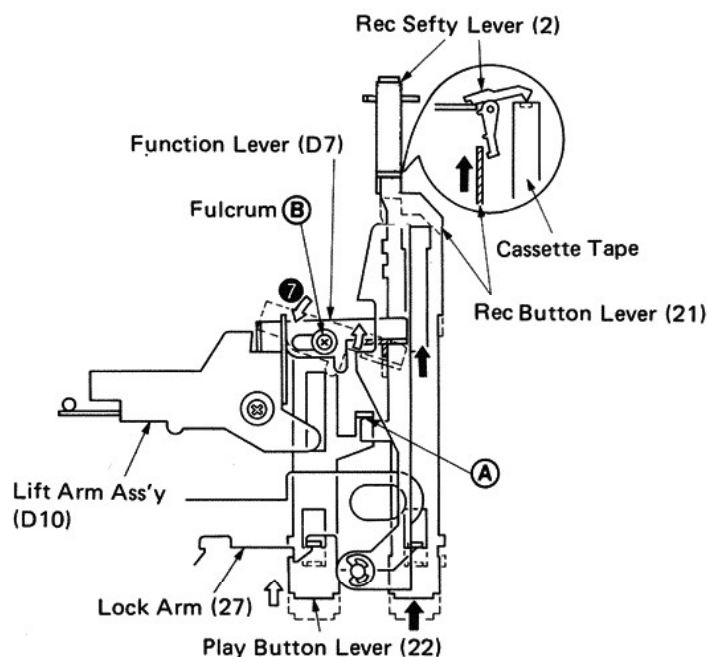

Fig. 30
- 1 When a cassette tape is mounted in position and the REC button is pressed, the REC button lever (21) and the PLAY button lever (22) are locked by the lock arm (27) since these two levers are interlinked with each other at Point (A).
- 2 When the REC button lever (21) slides the function lever begins to rotate around the fulcrum (B) in direction ⑦. (Fig. 30)